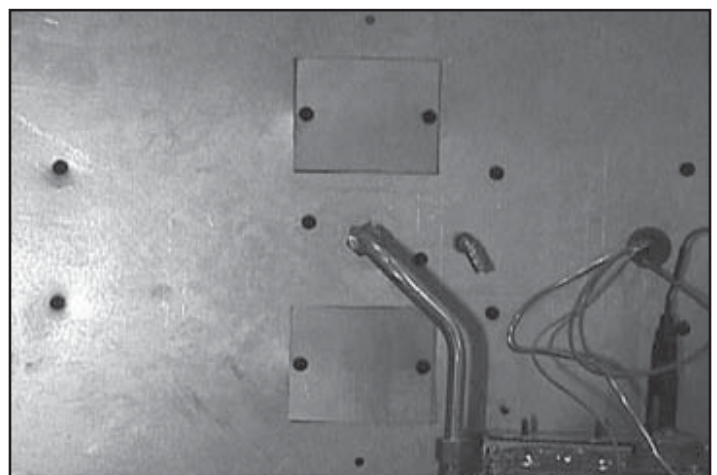
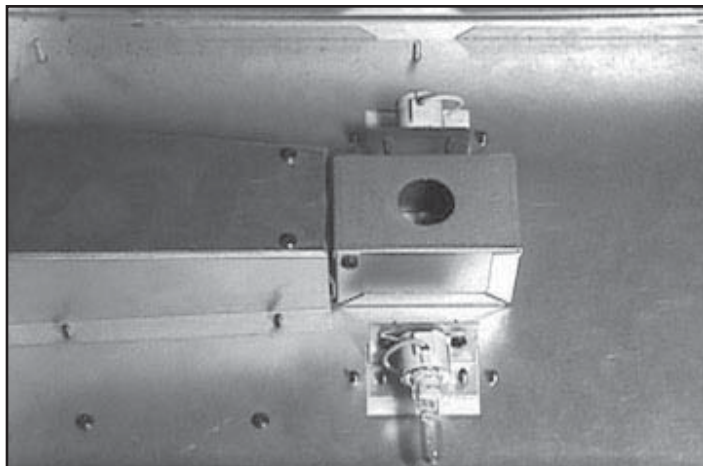

Figure 10.7 Cover Plates
Figure 10.10 Light Base
- If you have a "V" series appliance, skip to step 12, just above Figure 10.10. Open the control access panel to view the valve compartment. Locate the two cover plates. See Figure 10.7. Using a short phillips screwdriver, remove the two screws on the cover plate. Repeat for other side.
- Remove the halogen bulbs from the packaging and screw them into the light base. See Figure 10.10. Once the bulbs are in place, clean the surface of the bulbs with a soft cloth and Isopropyl rubbing alcohol to remove any fingerprints.